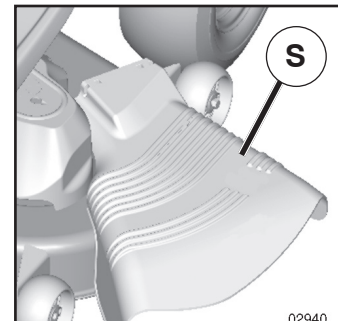

FIG. 12
CAUTION: Do not operate the mower without either the entire grass catcher, on mowers so equipped, or the deflector shield (S) in place (See Fig. 12).